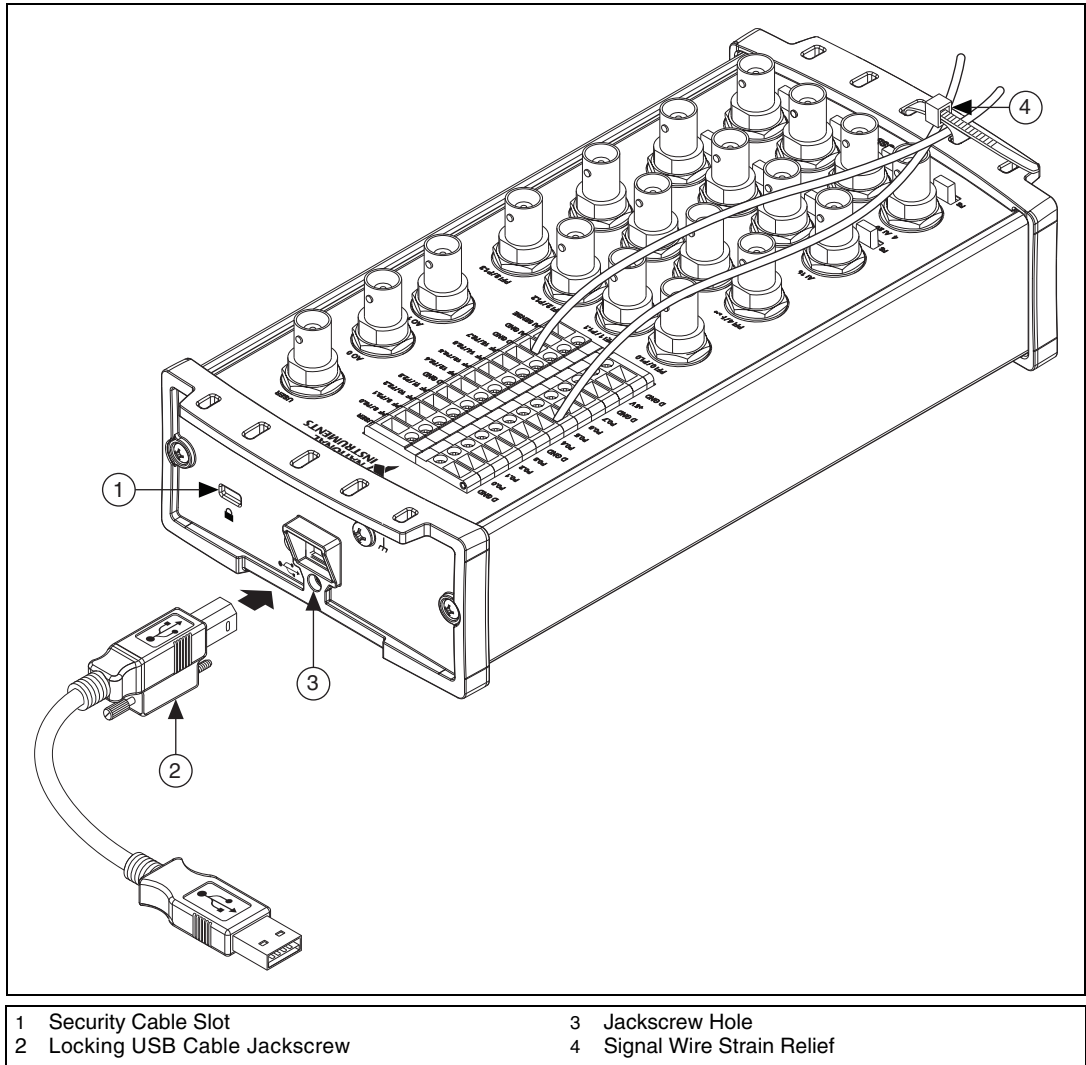

Figure 1-3. USB Cable Strain Relief on USB-621x BNC Devices
- Locking USB Cable Method—(USB-621x BNC Devices)** Use the jackscrew on the locking USB cable (included in the USB-621x BNC kit) to securely attach the cable to the device, as shown in Figure 1-3.
Note You can provide cable management for signal wires to/from the screw terminals and BNC connectors on USB-621x BNC devices by threading a zip tie through the strain relief holes and tightening it around the signal wires and BNC cables, as shown in Figure 1-3.
(USB-621x BNC Devices) The security cable slot, shown in Figure 1-3, allows you to attach an optional antitheft device to your USB device.